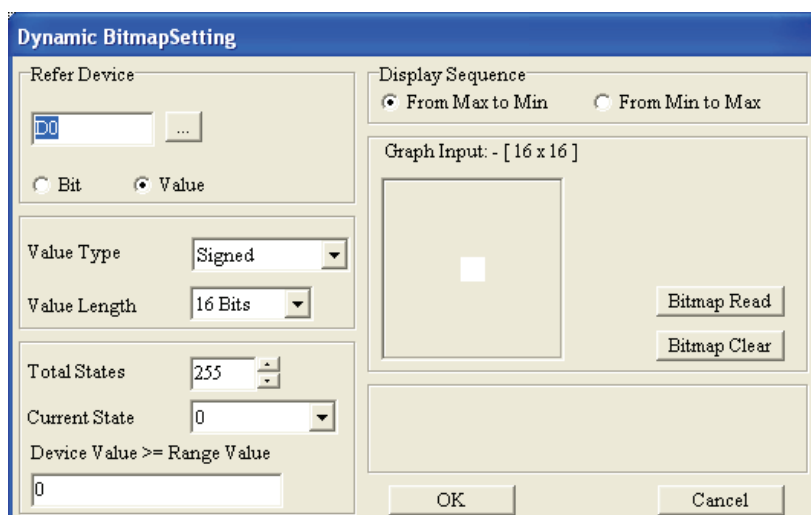

Figure 1-76
Step 3. When the Refer Device is set to Value, the Display Sequence could be either “From Max to Min” or “From Min to Max” (Figure 1-76).